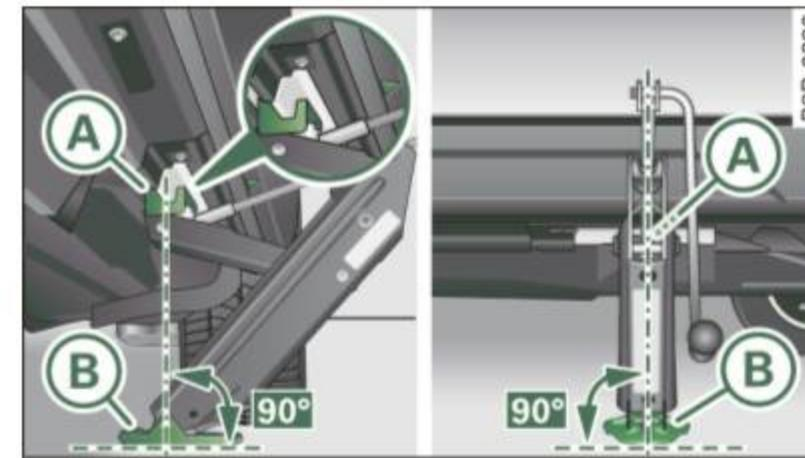

Fig. 224 Close-up: proper positioning of jack
- Align the jack so that its arm (A) ⇒ *page 299, fig. 224* engages in the designated lifting point in the door sill and the movable base (B) lies flat on the ground. The base (B) must be *vertical* under the lifting point (A).